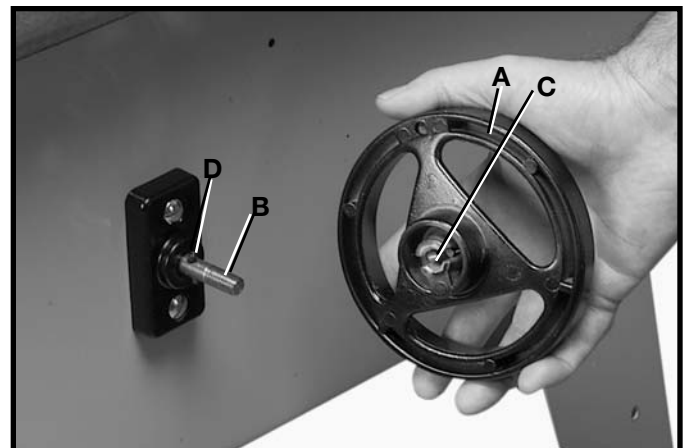

Fig. 10
1. Assemble blade tilting handwheel (A) Fig. 10, to shaft (B). Make certain slot (C) in handwheel is engaged with roll pin (D) on the shaft.